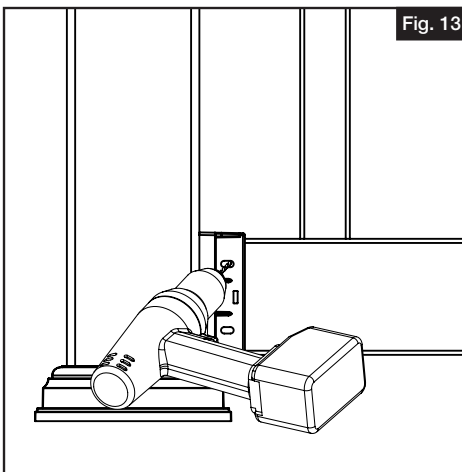

Fig. 13
- a. For each installed bracket, pre-drill in the center of each elongated hole with a $\frac{1}{8}$ " drill bit (Fig. 13).